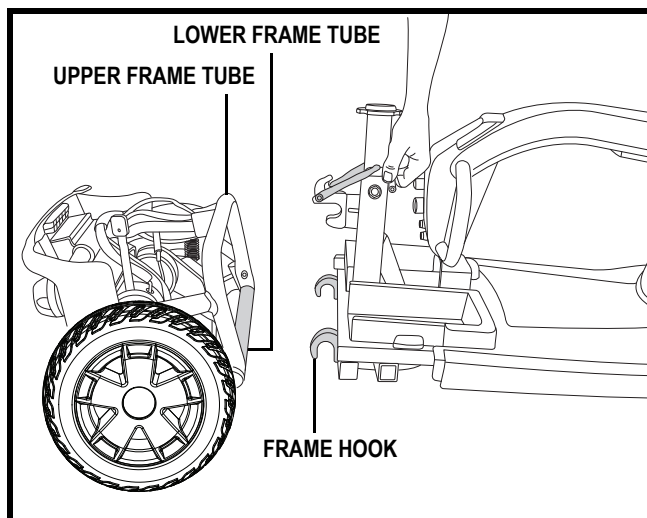

Figure 25. Frame Separation
NOTE: Stabilize the rear section with your free hand by holding onto the upper frame tube. See figure 25.
3. Slowly separate the two sections. See figure 25.